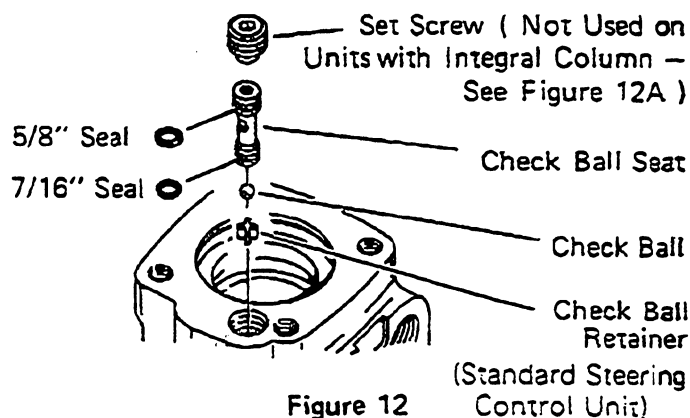

Figure 12
- 1 Use a needle nose pliers to lower check ball retainer into check valve hole of housing. Make sure retainer is straight (not tilted on edge) in housing, see Fig. 12.
- 3 Lubricate 5/8" diameter seal and 7/16" diameter seal. Install seals on check ball seat as shown in Fig. 12.
- 4 Lubricate check ball seat and seals thoroughly before installing seat in housing. When installing seat do not twist or damage seals. Install check ball seat in housing, insert open end of seat first, see Fig. 12. Push check ball seat to shoulder of hole.